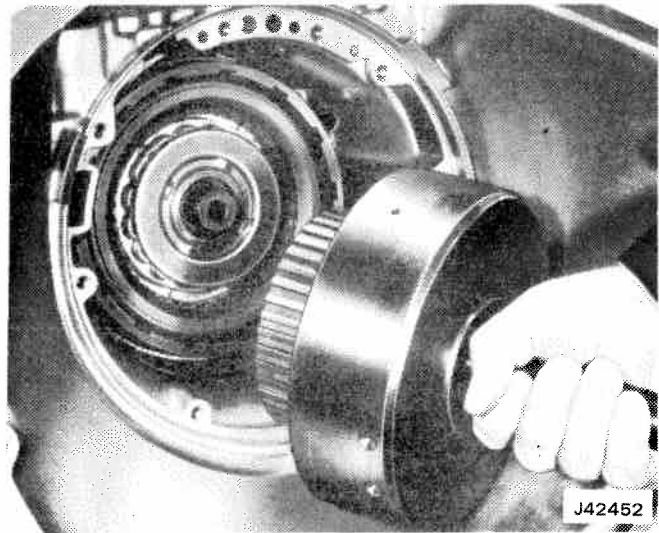

Fig. 7-22 Removing-Installing Forward Clutch Assembly
- (6) Remove forward clutch assembly and turbine shaft from transmission case, as shown in fig. 7-22.
- (7) Remove forward clutch hub to direct clutch hous-